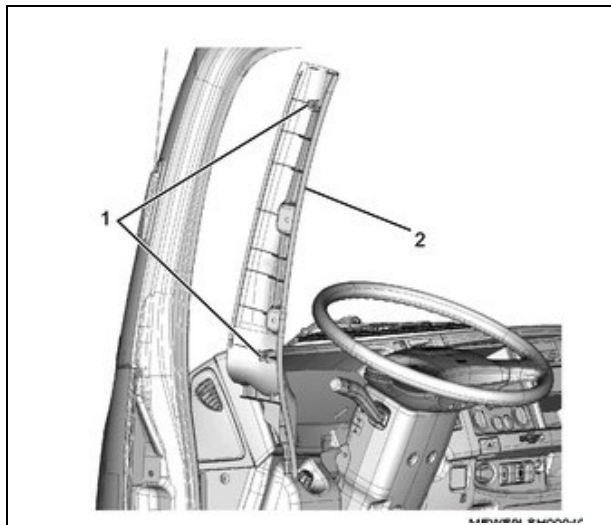

Figure 51
51. Pull the front door weatherstrip away from the front pillar trim cover. Then pull the front pillar trim cover up and remove it from the front pillar. (See Figure 51.)